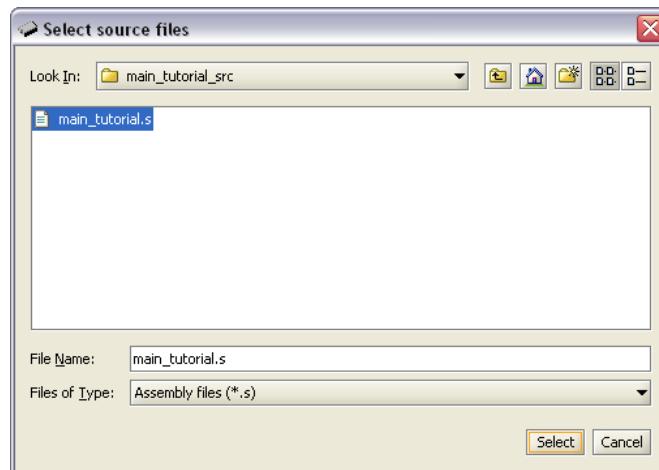

Figure 12. Select source files window.
2. Click **Add...** to display a window similar to Figure 12. The source file for this part of the tutorial is located at `<TUTORIAL_FILES>\example\sw\main_tutorial_src\main_tutorial.s`. Choose that file and click **Select**.